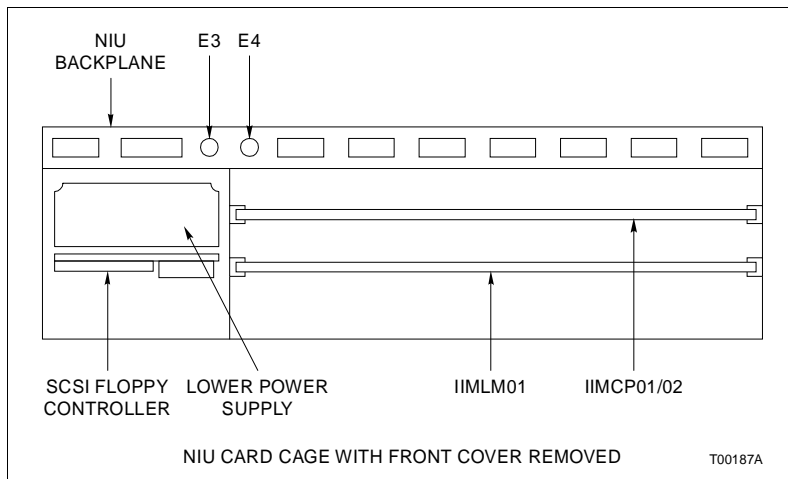

Figure PR34-2. NIU Card Cage with Covers Removed
- 5. Unplug and remove the IIMCP01 module from the NIU backplane (Fig. PR34-2).